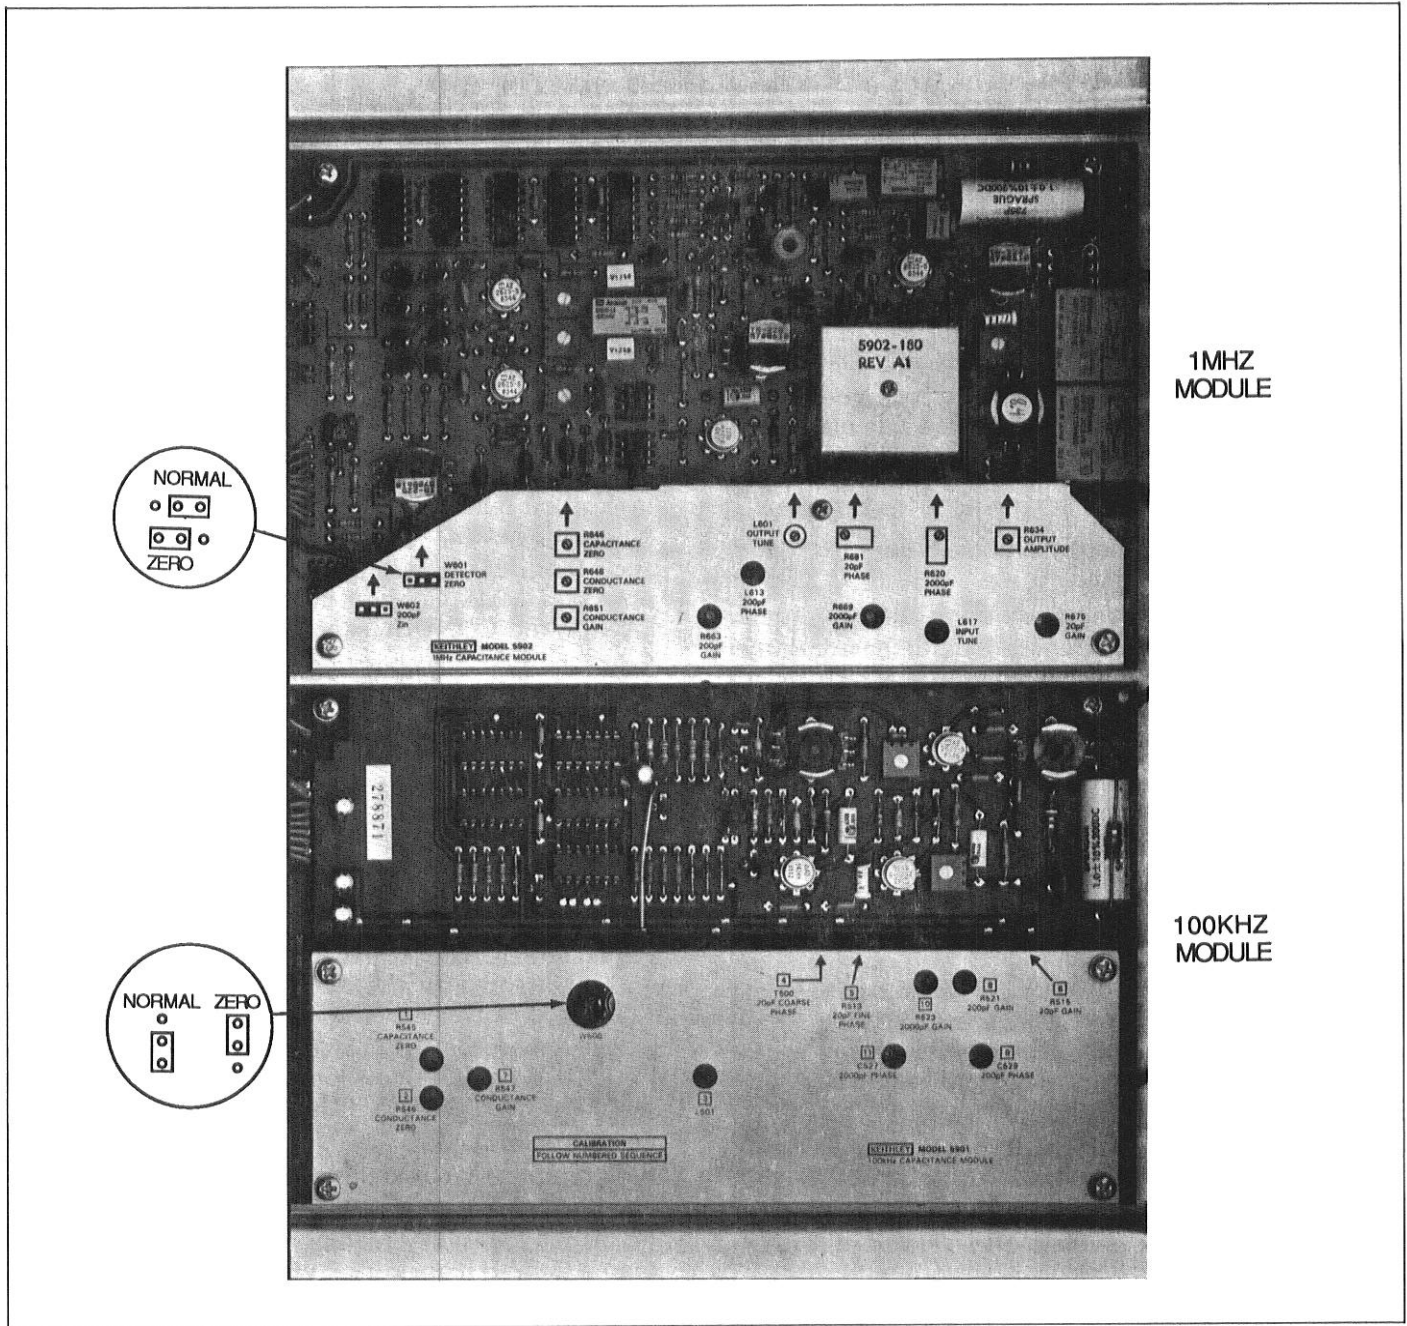

Figure 3-4. Module Adjustments
The calibration adjustments and jumpers are shown in Figure 3-4.
4. Change the position of jumper W500 to the ZERO position, as shown in Figure 3-4.
4. Move jumper W601 to the ZERO position (see Figure 3-4).